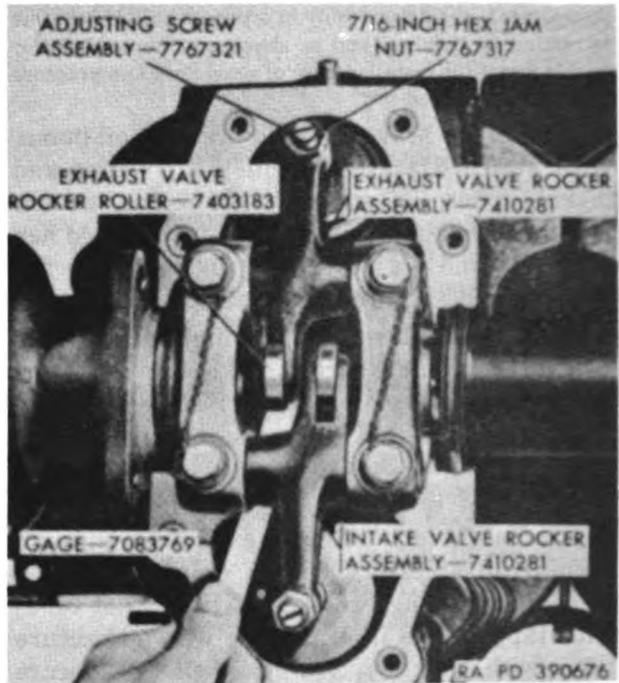

Figure 175. Checking exhaust valve clearance.
- (1) *Exhaust valve clearance* (fig. 175).
- (a) Insert 0.0140-inch leaf of gage 7083769 (fig. 175) between cam-